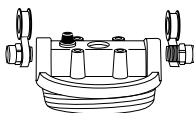

Figure 5
6. Wrap Plumbers tape (2 1/2 wraps) around the 3/8" fitting in a clockwise direction and fasten to filter head (see Figure 5). Do not use pipe sealant (dope), as solvents in some types of pipe dope may cause damage to plastic fittings.